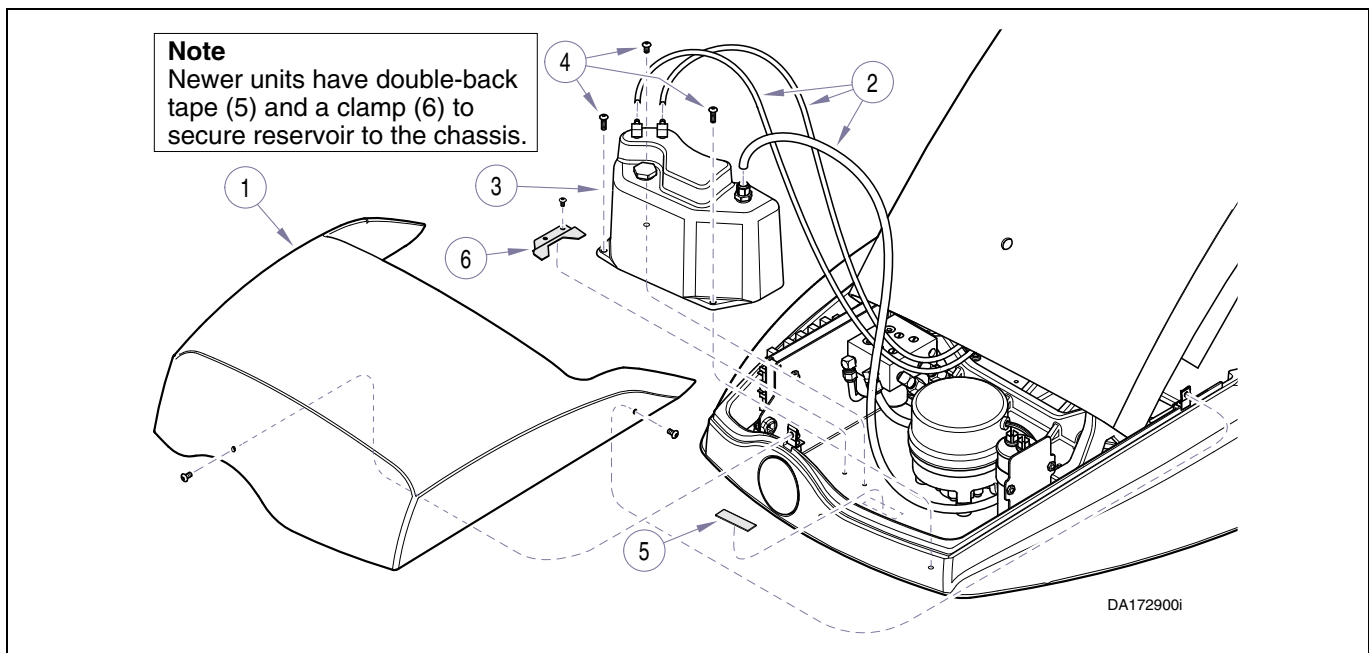

Figure 4-12. Hydraulic Reservoir
- (3) Unplug chair power cord.
- (4) Remove hydraulic cover (1, Fig. 4-12).
On newer units, place the double back tape (5, Fig. 4-12) on the bottom of the reservoir and position the reservoir on the chassis.
- (1) Place reservoir (3, Fig. 4-12) in position and secure with mounting screws (4) or clamp (6).
- (2) Connect hydraulic lines (2).
- (3) Add hydraulic fluid to reservoir until at correct level (refer to para 4.12).